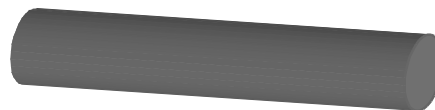
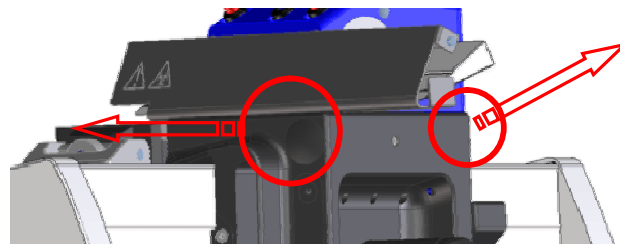

Fig. 2-3-1
Fig. 2-3-2
As required by users to vary the weight of the sledge, we have included additional ballast (Fig. 2-3-1) into the standard equipment.
- Remove the two cover caps, located sideways at the sledge (Fig. 2-3-2).
- Insert the ballast (Fig. 2-3-1) into the opening and close it again by using the two cover caps (Fig. 2-3-2).